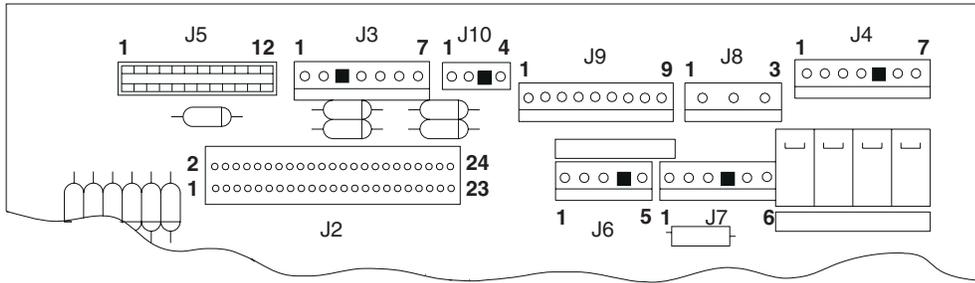

Figure 6-29. Printer Card Connections
- Check the print head cable to ensure it is correctly installed in cable connector J5. See Figure 6-29 on page 6-54.